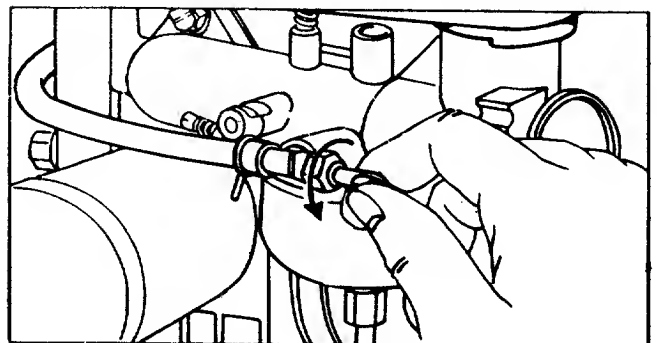

FIGURE 13. FUEL SHUT-OFF VALVE
- Step 1. Be sure the fuel shut-off valve is open. See figure 13.